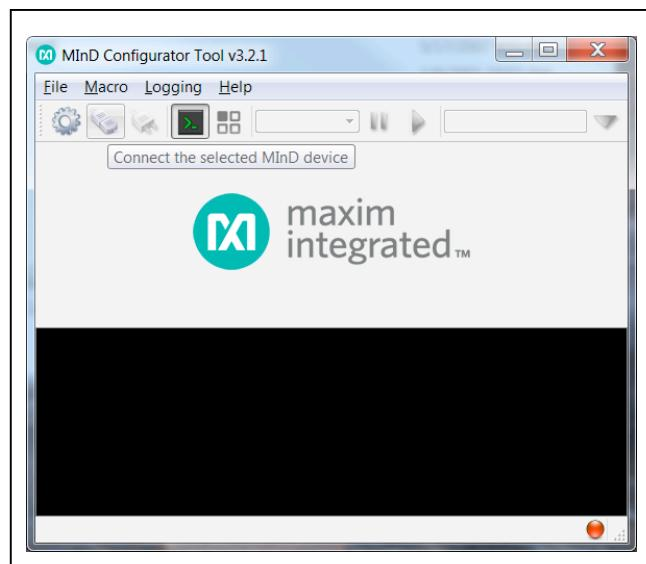

Figure 14. Connection to the MInD
- 3) Finally, click on the **Connect the selected MInD device** button on the application toolbar to connect to the selected device (Figure 14).